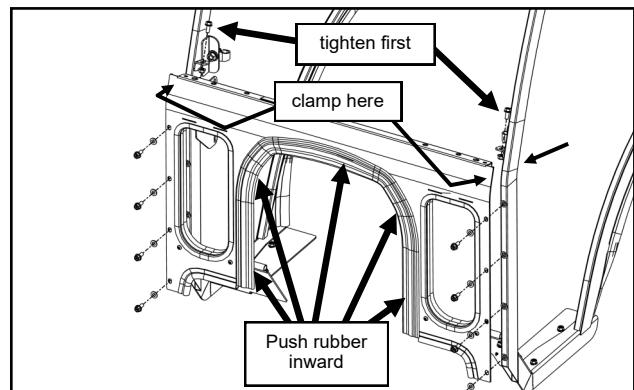

Fig. 8.1 (cowl installation onto side frames)
**8.1** Fasten the cowl to the sideframes as shown in figure 8.1. The 1" flat bulb rubber should lay across the dashboard and flex inwards towards the steering wheel. Fasten to the factory installed threaded inserts in each side frame. Starting from the top, install all fasteners finger tight. Next, clamp as shown, tighten upper (2) screws first and then tighten lower (8) screws.